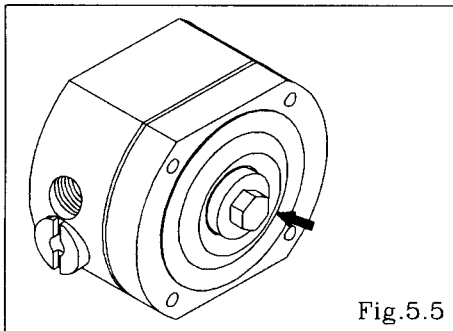

Fig.5.5
- Remove the center disk from one side using the Accessory tool (special tool: Part No. 771132). (NDP-5) [Fig.5.5]
- Remove the center disk from one side. (NDP-15) [Fig.5.5]